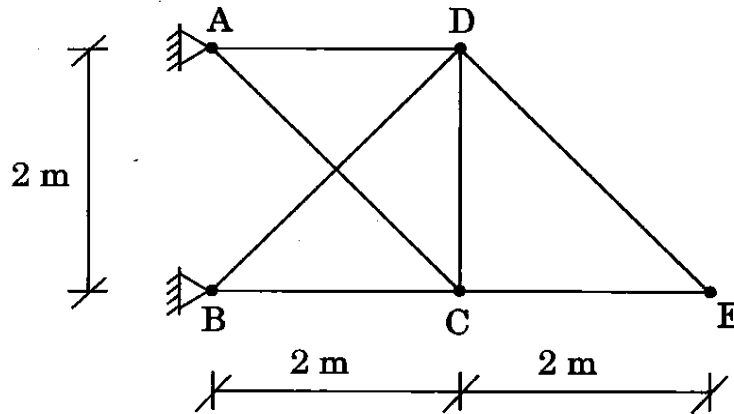

Figure 6
- (b) Determine the forces in all the members of the truss as shown in Figure 6 due to a fall of temperature of the member BD by 30°C. Cross-sectional area of all the members = 1500 mm2.  $\alpha = 0.00001/^\circ\text{C}$ . 20